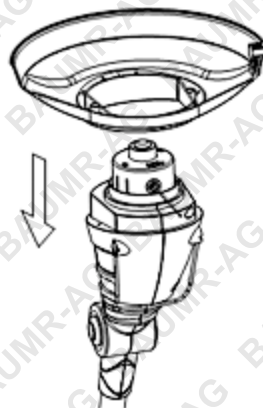

FIG. 1
2. Slide guard over motor housing (FIG. 1).